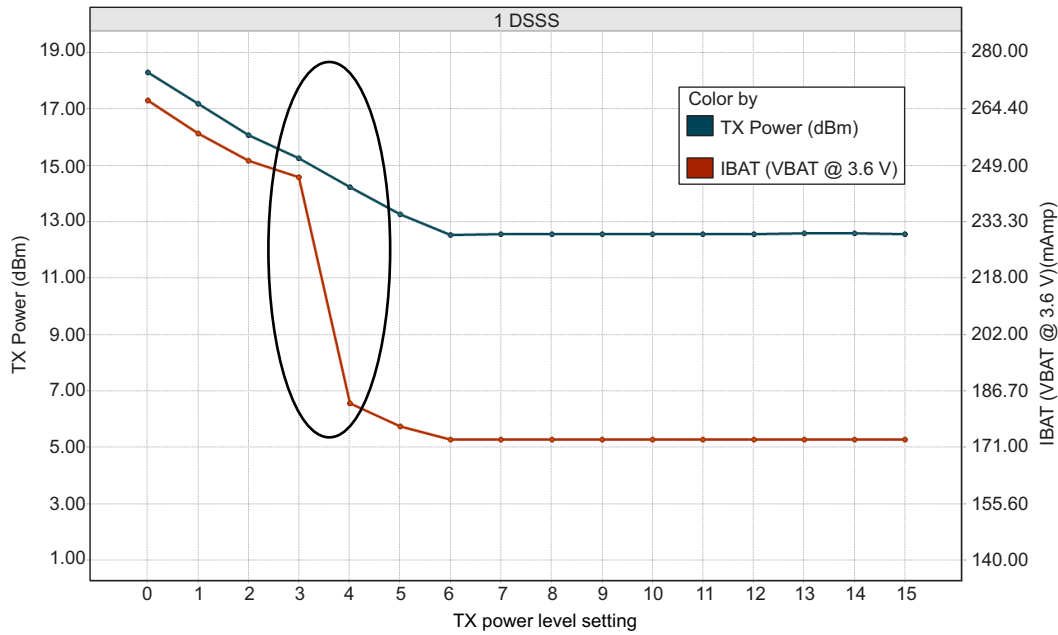
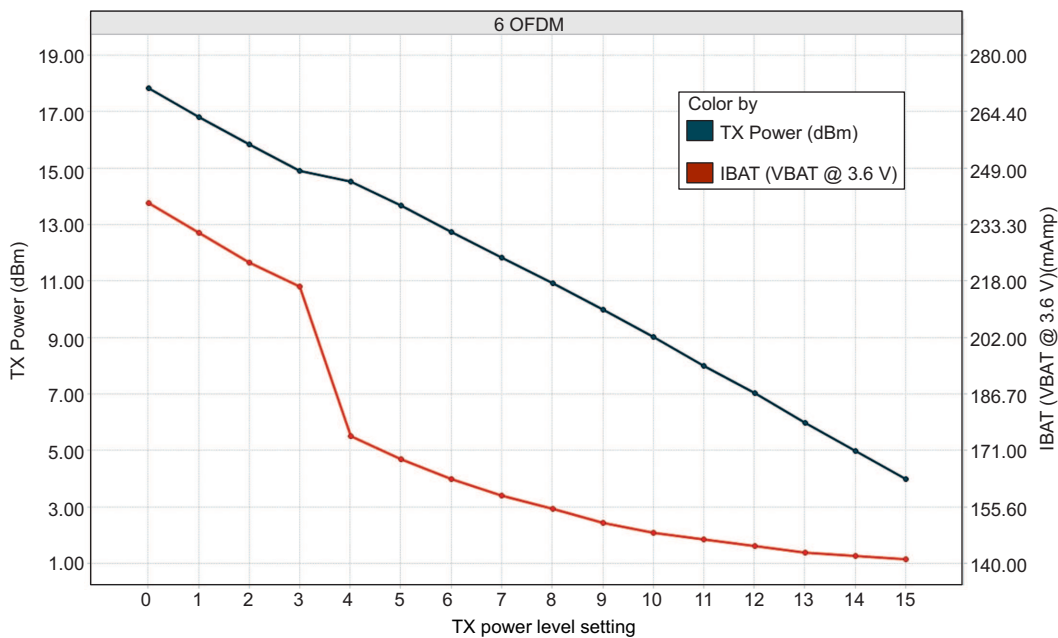
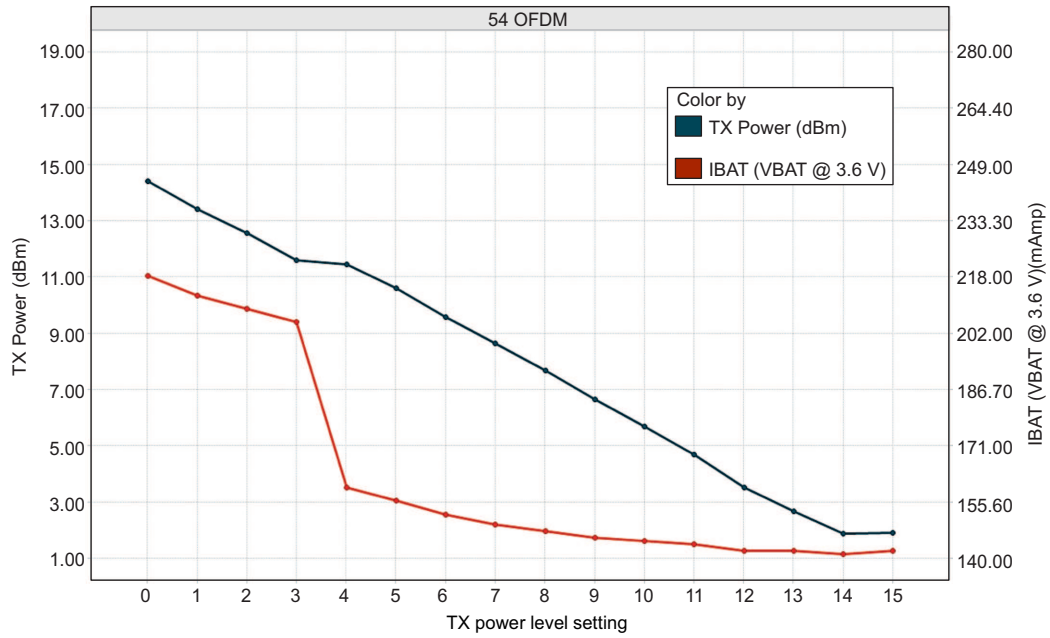

Figure 4-1. TX Power and IBAT vs TX Power Level Settings (1 DSSS)
Figure 4-2. TX Power and IBAT vs TX Power Level Settings (6 OFDM)
Figure 4-3. TX Power and IBAT vs TX Power Level Settings (54 OFDM)
- (1) TX power level = 0 implies maximum power (see Figure 4-1, Figure 4-2, and Figure 4-3). TX power level = 4 implies output power backed off approximately 4 dB.
- (2) The CC3220x system is a constant power-source system. The active current numbers scale based on the VBAT voltage supplied.
- (3) DTIM = 1
- (4) LPDS current does not include the external serial flash. The LPDS number of reported is with retention of 256KB of MCU SRAM. The CC3220x device can be configured to retain 0KB, 64KB, 128KB, 192KB, or 256KB of SRAM in LPDS. Each 64-KB block of MCU retained SRAM increases LPDS current by 4  $\mu\text{A}$ .
- (5) The complete calibration can take up to 17 mJ of energy from the battery over a time of 24 ms. In default mode, calibration is performed sparingly, and typically occurs when re-enabling the NWP and when the temperature has changed by more than 20°C. There are two additional calibration modes that may be used to reduced or completely eliminate the calibration event. For further details, see CC3120, CC3220 SimpleLink™ Wi-Fi® and IoT Network Processor Programmer's Guide.
(1) TX power level = 0 implies maximum power (see Figure 4-1, Figure 4-2, and Figure 4-3). TX power level = 4 implies output power backed off approximately 4 dB.
(2) The CC3220x system is a constant power-source system. The active current numbers scale based on the VBAT voltage supplied.
(3) DTIM = 1
(4) LPDS current does not include the external serial flash. The LPDS number of reported is with retention of 256KB of MCU SRAM. The CC3220x device can be configured to retain 0KB, 64KB, 128KB, 192KB, or 256KB of SRAM in LPDS. Each 64-KB block of MCU retained SRAM increases LPDS current by 4  $\mu\text{A}$ .
(5) The complete calibration can take up to 17 mJ of energy from the battery over a period of 24 ms. Calibration is performed sparingly, typically when coming out of HIBERNATE and only if temperature has changed by more than 20°C. The calibration event can be controlled by a configuration file in the serial flash..
Figure 4-1, Figure 4-2, and Figure 4-3 show TX Power and IBAT versus TX power level settings for the CC3220R and CC3220S devices at modulations of 1 DSSS, 6 OFDM, and 54 OFDM, respectively. For the CC3220SF device, the IBAT current has an increase of approximately 10 mA to 15 mA depending on the transmitted rate. The TX power level will remain the same.
In Figure 4-1, the area enclosed in the circle represents a significant reduction in current during transition from TX power level 3 to level 4. In the case of lower range requirements (14-dBm output power), TI recommends using TX power level 4 to reduce the current.